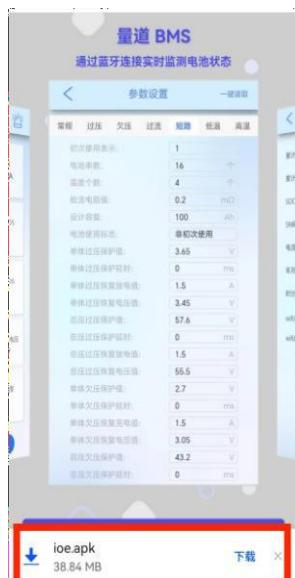
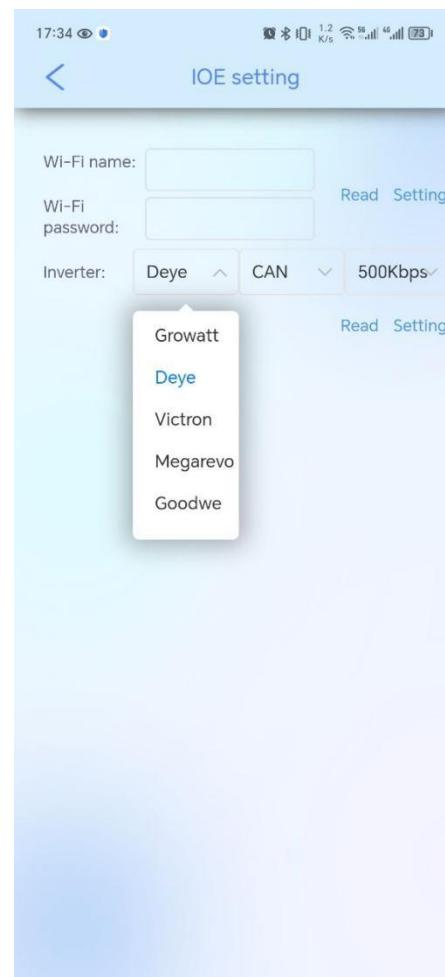
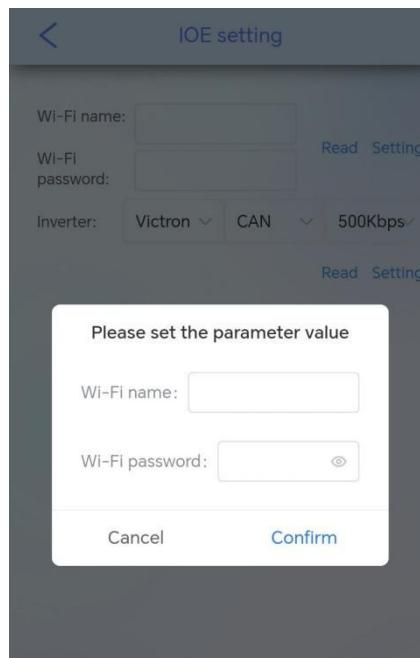

Figure 4: Browser download Figure 5: Android stallation Figure 6:IOS installation
Figure 5 : Inverter selection
Figure 6:WIFI setting
Step3. Click Figure 3 to download immediately, and the APK installation package will appear on the Android terminal, as shown in Figure 4. After downloading, install it, as shown in Figure 5. iOS directly enters the APP Store for download and installation, as shown in Figure 6.